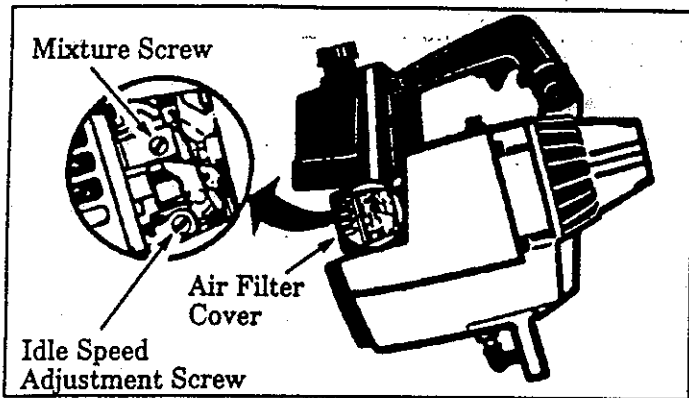

Figure 23
- a. Turn the Mixture Screw (Figure 23) clockwise until it stops. *Do not turn the screw until it is tight as damage to the needle seat can occur.*
- b. If the engine does not accelerate smoothly, turn the Mixture Screw (Figure 23) counterclockwise ← a small amount (no more than the width of the slot in the adjusting screw).
3. Turn Mixture Screw (Figure 23) very slowly clockwise \rightarrow until engine speed is reduced.